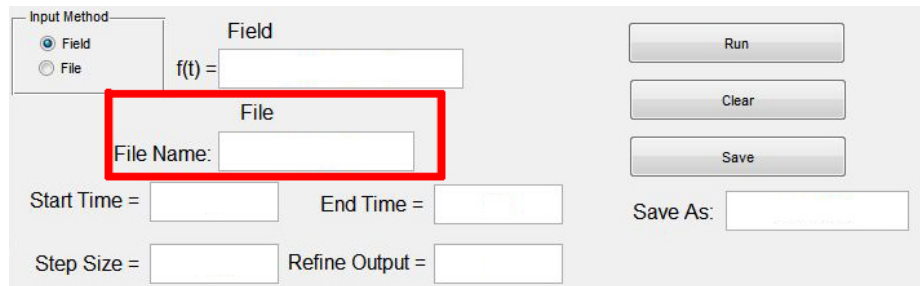

Figure 9: Type in the file name to the text field that is circled.
6. Now, enter in the file name into the text field seen in Figure 9.